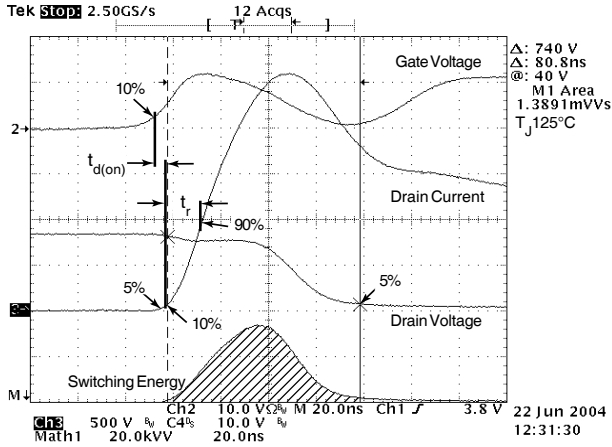

Figure 18, Turn-on Switching Waveforms and Definitions
③ See MIL-STD-750 Method 3471
④ Starting  $T_j = +25^\circ C$ ,  $L = 12.39mH$ ,  $R_G = 25\Omega$ , Peak  $I_L = 22A$
⑤  $dv/dt$  numbers reflect the limitations of the test circuit rather than the device itself.  $I_S \leq -22A$   $di/dt \leq 700A/\mu s$   $V_R \leq 1200$   $T_j \leq 150^\circ C$
⑥  $E_{on}$  includes diode reverse recovery. See figures 18, 20.